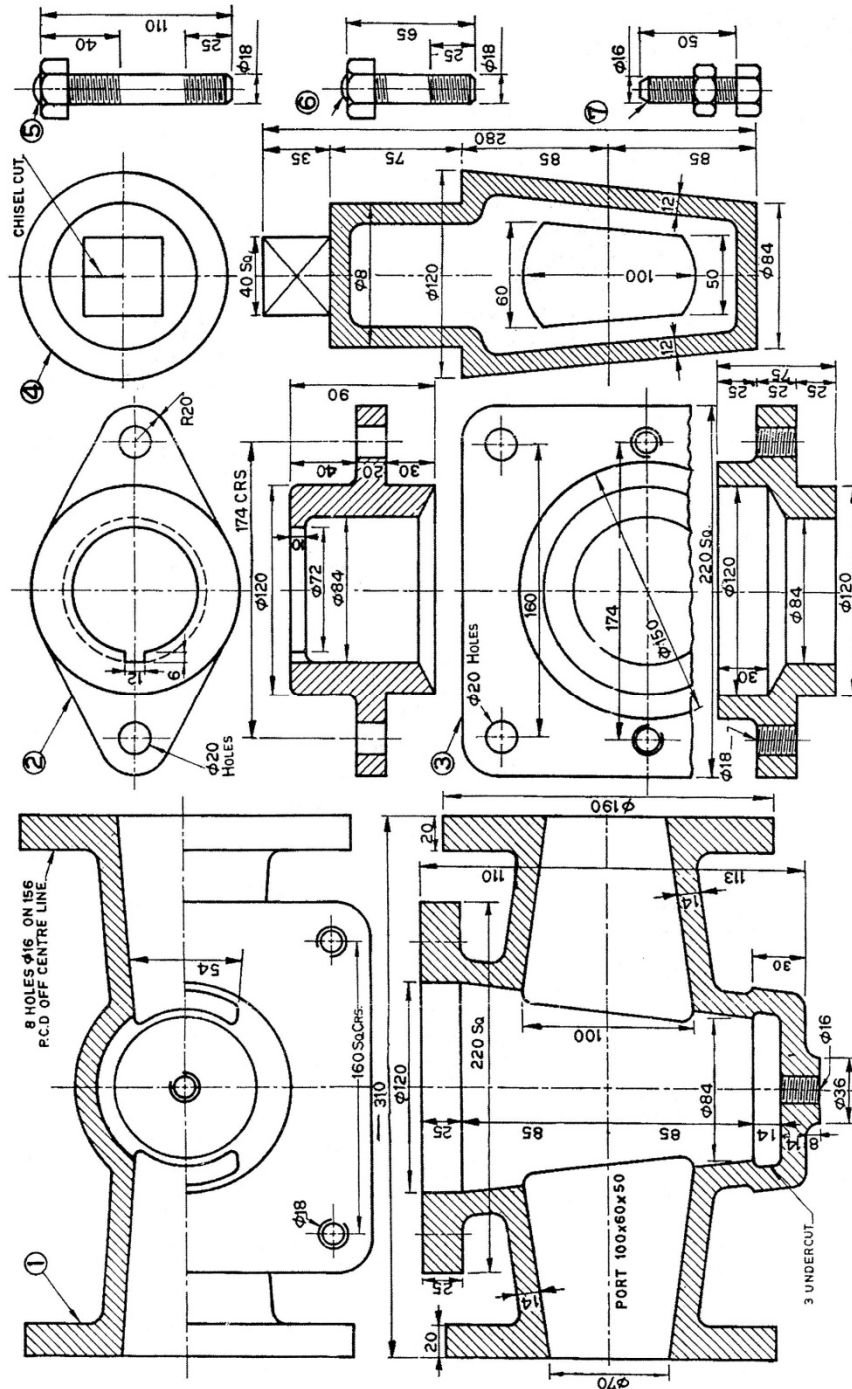

Fig.3
9. Fig. 3 represents the parts of a blow off cock. Assemble the parts and draw the following views :